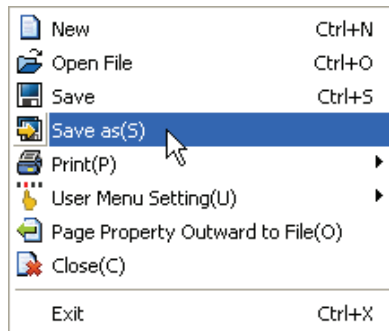

Figure 1-43
Step 1. Click **File (F) > Save as** (Figure 1-43).